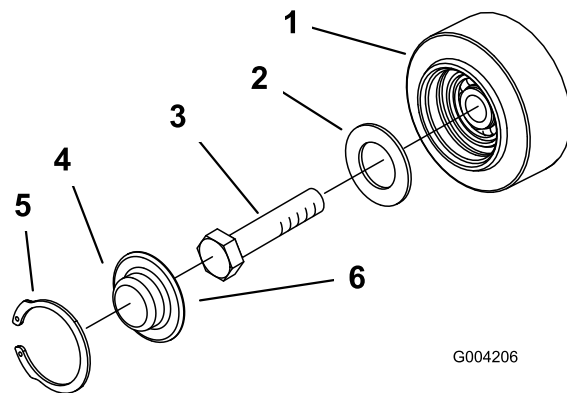

Figure 49
4. Check the grease under the cap and around the gasket (Figure 49). If it is dirty, gritty, or depleted, clean out all of the grease, replace the gasket, and add new grease.
6. Place the greased road wheel cap over the bolt head (Figure 49).
7. Secure the road wheel cap with the snap ring (Figure 49).
3. Remove the snap ring and cap from a road wheel (Figure 49).